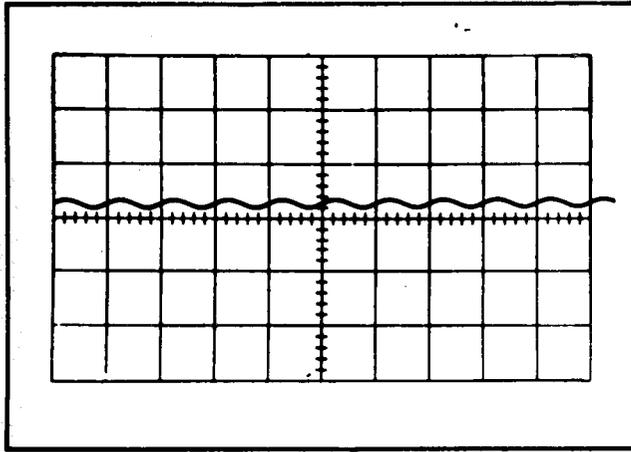

Fig. 5-14. Typical CRT display when checking high-frequency reject operation at 50 kilohertz.
c. CHECK-Stable CRT display (see Fig. 5-14) can be obtained with the B LEVEL control,
i. CHECK-Stable CRT display (see Fig. 5-14) can be obtained with the A LEVEL control.